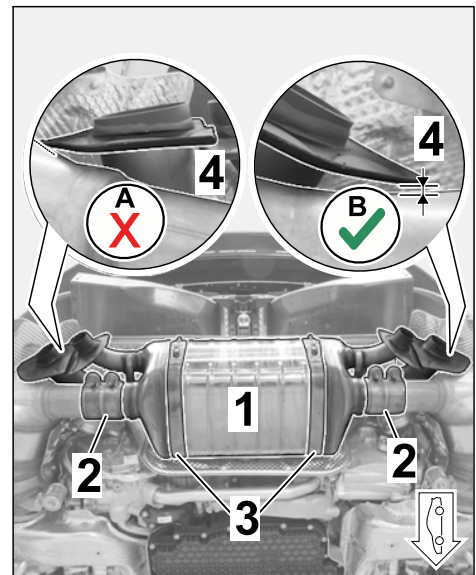

Figure 7
2.4.5 Position new muffler for sport exhaust system on the muffler holder and pre-install hand-tight with new restraining straps (2 ea.) (⇒ *Figure 7*).
2.4.6 Check whether the protective plate is touching the catalytic converter (⇒ *Figure 7-insets*-).
- If it is (⇒ *Figure 7-A*-): Correct the position of the muffler or bend the cover away if necessary so that there is a gap of at least 3–5 mm (⇒ *Figure 7-B*-) between the plate and catalytic converter!
- If not (⇒ *Figure 7-B*-): Continue with the next step.